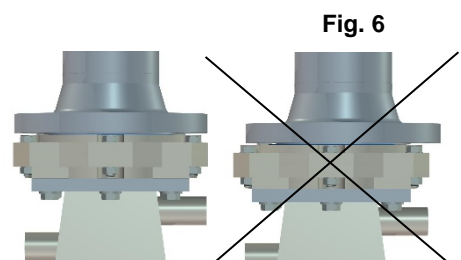

Fig. 6
- The RKO's centre line is on the same centre line as the flange, see fig. 6.
- Flange surfaces of the pipe and valve must be exactly parallel, see fig. 6.